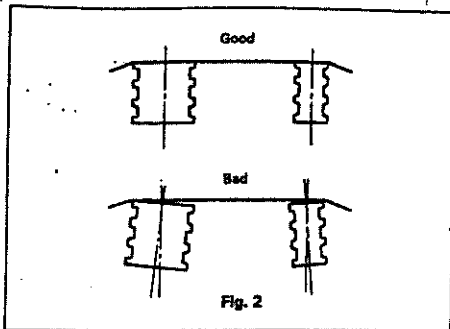

Fig. 2
- (1) Refer to the catalog for the respective speeds of the driver and pump pulleys to determine their appropriate size and the number of V-belts that will be required.
- (2) Stretch a piece of string between the driver and pump pulleys. The string should be in a straight line as shown in Fig. 2.
- (3) As pump must rotate counterclockwise viewed from drive shaft, couple driver so that belt tension is applied to lower portion.
- (4) The belt should not be too tight or too loose. With a V-belt, allow for a slack of about 10 millimeters when the belt is depressed.
- (5) Before beginning operation, rotate pulleys by hand to ensure that belt will stay in place.
- (6) If the belt slips or makes an abnormally loud sound, adjust tension.
- (7) As the belt may stretch and slip or come off when the motor is continuously operated for an extended period of time, pump and driver may need occasional repositioning.